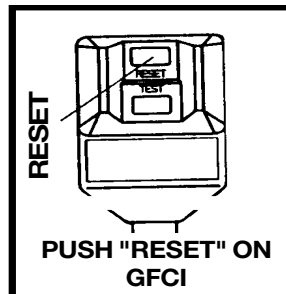

Figure 1
**GFCI:** (GROUND FAULT CIRCUIT INTERRUPTER) This pressure washer is equipped with a GFCI built into the plug of the power supply cord. This device provides additional protection from the risk of electrical shock. (Figure 1)